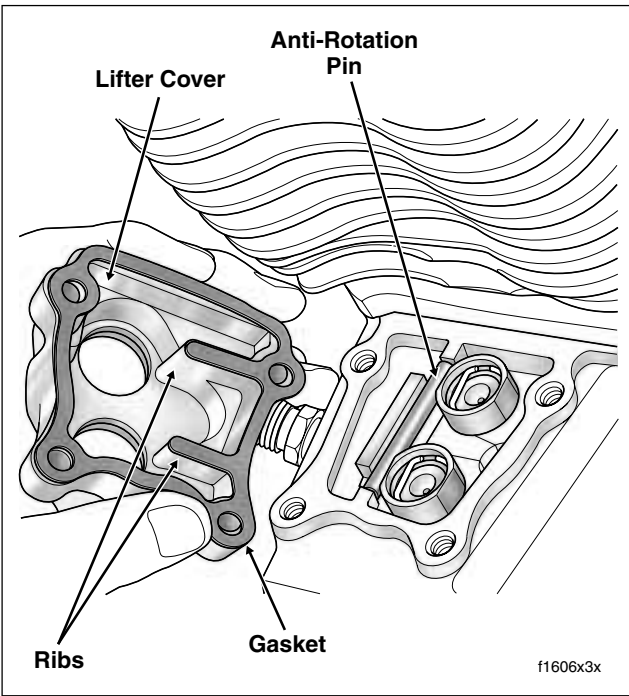

Figure 3-37. Install Lifters and Lock Position With Anti-Rotation Pin
26. Place anti-rotation pin on the machined flat between the blocks cast into the crankcase. See Figure 3-37.
28. Install the lifter cover and start the four allen head socket screws (1/4 x 1 inch). During installation, verify that the anti-rotation pin is held in place by the ribs cast into the inboard side of the lifter cover. See Figure 3-37. Tighten the lifter cover screws to 90-120 **in-lbs** (10.2-13.6 Nm) in a crosswise pattern.